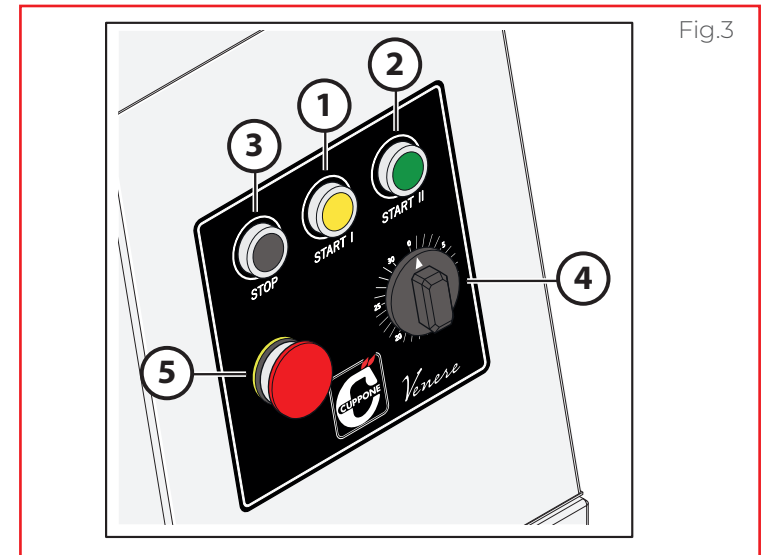

Fig.3
► **Fig.3** The main parts of the machine are:
► **Fig.3 Control panel**
- check that all safety devices (emergency mushroom (5) ► Fig.3) are working perfectly; its functionality is checked by pressing it and making sure that the appliance immediately stops working. In the event of anomalies or inefficiencies, immediately notify the manager in charge;
If pressed, the emergency mushroom interrupts the appliance operation. To unlock it and restart the normal working activity, rotate it clockwise. The mushroom must be used in a real emergency; to stop the appliance normally, use the STOP button ③ ► Fig.3